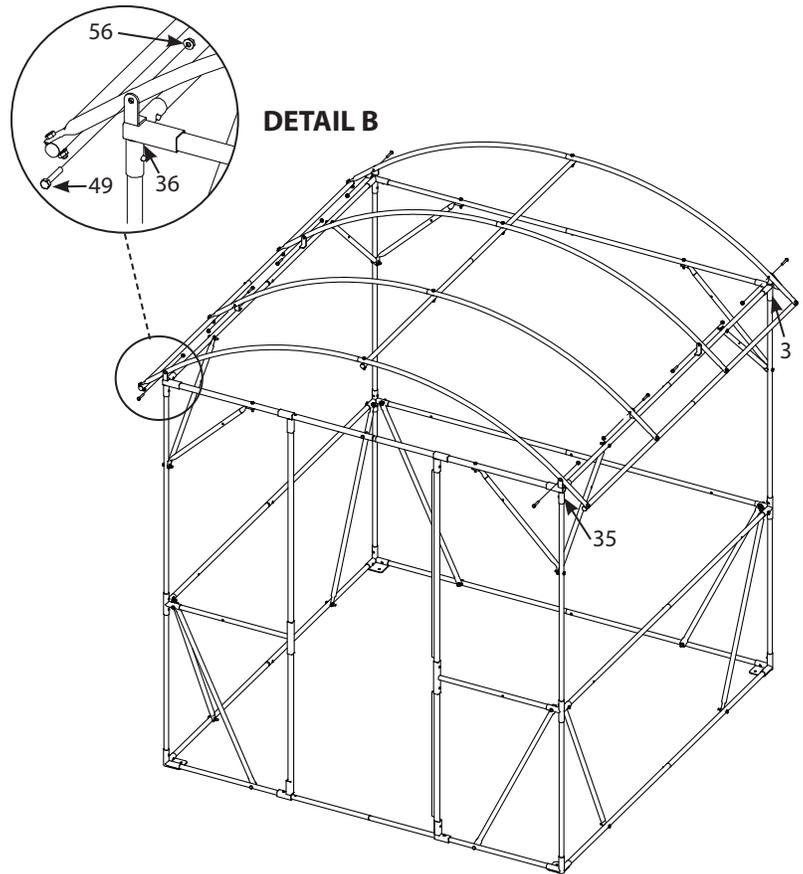

FIGURE 10
10. Attach the assembled roof to the rest of the blind frame using eight 1/4-20 X 1-1/2 IN bolts (49) and 1/4-20 nuts (56). **SEE FIGURE 10.** Pay attention to the orientation of the roof! The roof attaches on the inside of the roof hub (3, 35, 36) tabs. **SEE DETAIL B.** Securely tighten all loose hardware at this time.